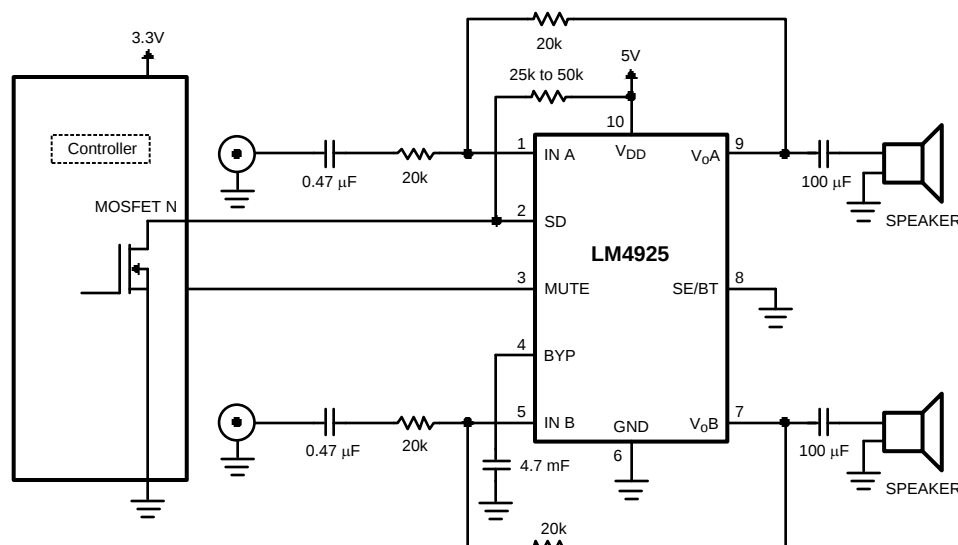

Figure 30. Recommended Circuit for Different Supply Turn-On Timing
The LM4925 can be configured for either single ended (see Figure 4) or BTL mode (see Figure 5). When the $\overline{SE/BTL}$ pin has a logic high (V_{DD}) applied to it, the LM4925 is in BTL mode. If a logic low (GND) is applied to $\overline{SE/BTL}$, the LM4925 operates in single-ended mode. The slew rate of V_{DD} must be greater than 2.5V/ms to ensure reliable Power on reset (POR). The circuit shown in Figure 30 presents an applications solution to the problem of using different supply voltages with different turn-on times in a system with the LM4925. This circuit shows the LM4925 with a 25-50k Ω . Pull-up resistor connected from the shutdown pin to V_{DD} . The shutdown pin of the LM4925 is also being driven by an open drain output of an external microcontroller on a separate supply. This circuit ensures that shutdown is disabled when powering up the LM4925 by either allowing shutdown to be high before the LM4925 powers on (the microcontroller powers up first) or allows shutdown to ramp up with V_{DD} (the LM4925 powers up first). This will ensure the LM4925 powers up properly and enters the correct mode of operation (BTL or SE). Please note that the $\overline{SE/BTL}$ pin should be tied to GND for single-ended (SE) mode, and to Vdd for BTL mode.